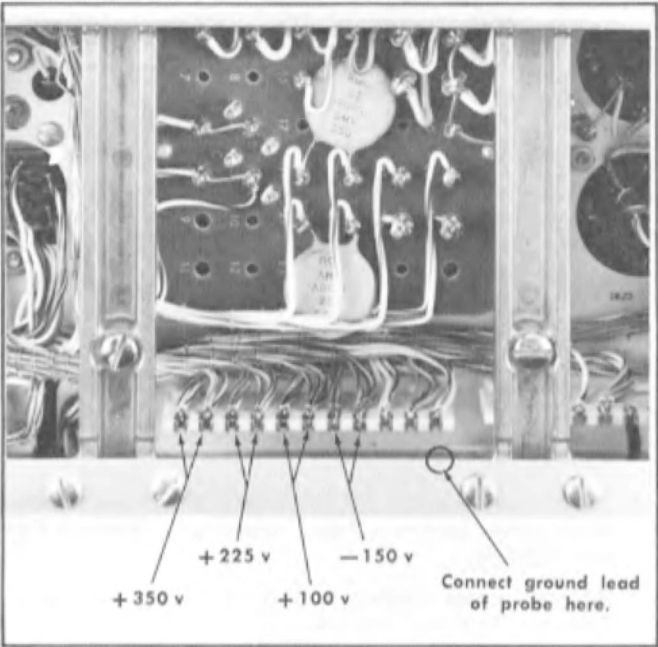

Fig. 5-1. Low-voltage power supply test point locations.
- 4. Using the VOM, check the resistance from the regulated power-supply terminals to ground as shown in Fig. 5-1. The values of resistance should be approximately as indicated in Table 5-1, once the capacitors are charged by the VOM internal battery.
- b. Check the voltage accuracy of each power supply output using the VOM according to the information given in Table 5-3. The location of the test points is shown in Fig. 5-1.
- a. Monitor the regulated output of the −150-volt supply with the VOM. The test point location is shown in Fig. 5-1.
ripple due to ground loops is to temporarily disconnect the chassis ground wire in the power cord by using an ungrounded 3- to 2-wire line-plug adapter. Then use a ground lead from the signal probe body to make a ground connection to the oscilloscope chassis at the location shown in Fig. 5-1. The probe will then provide the only ground connection between the two instruments. The term "test oscilloscope" is item 1 under "Equipment Required" while the term "oscilloscope" or "instrument" is the oscilloscope being calibrated.